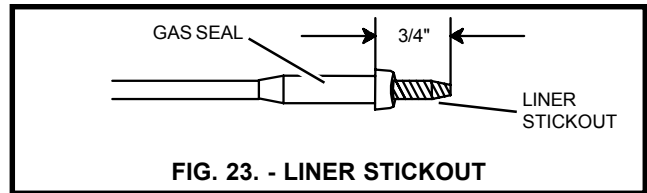

FIG. 23. - LINER STICKOUT
3. Adjust the liner stickout length to 3/4" as shown in FIG. 23.